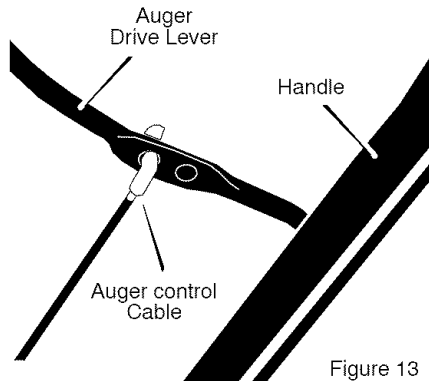

Figure 13
4. Install the **auger control cable** in the hole shown in Figure 13.